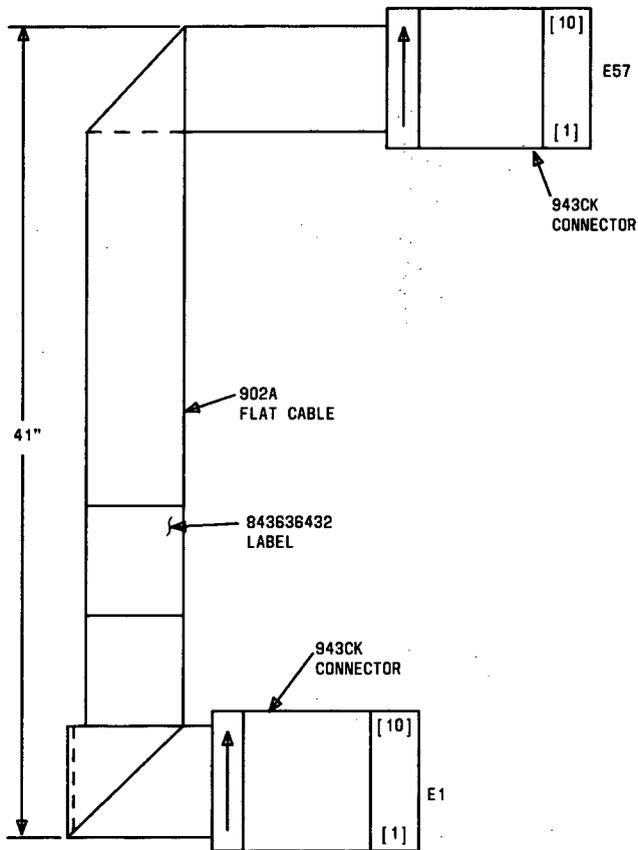

Figure 23. ED-1E434, Group 25 Cable
Install the ED-1E434, Group 25 cable(s) (Figure 23) from E57 on the module control (00) backplane to connector E1 on the ZAEY2 circuit pack (ED-1E469, Group 3 Extended MAAP Bracket) for each central module associated with RMI as shown in Table F.